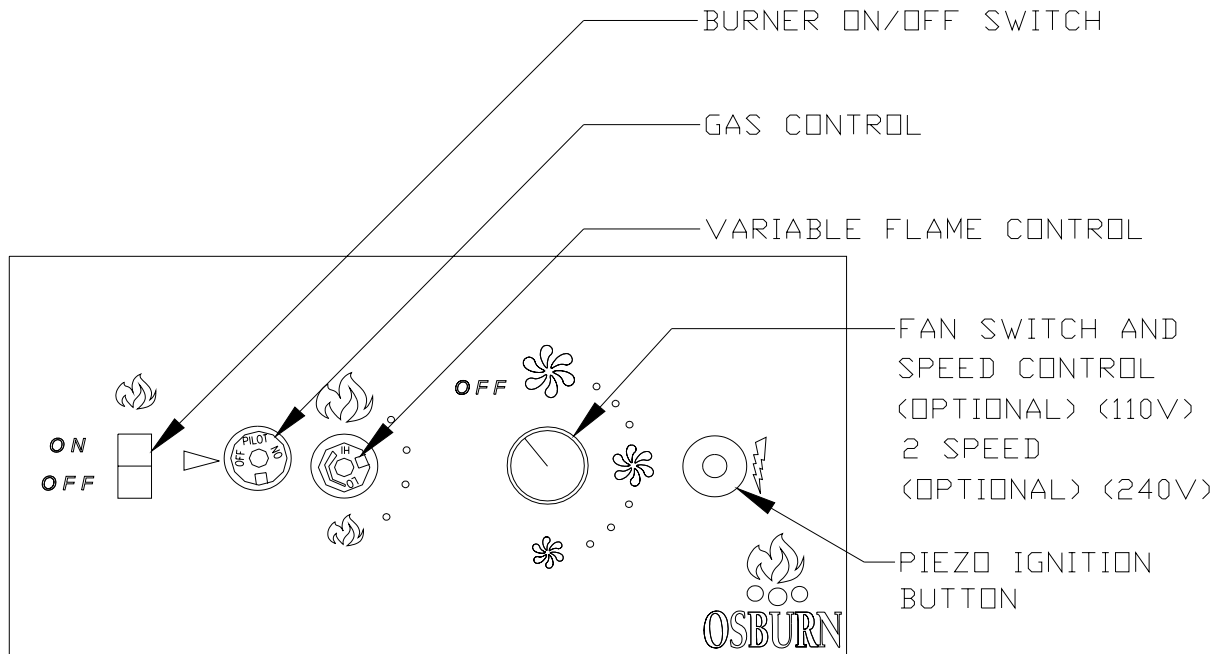

Figure 2
The glass door and grille assembly must be properly installed prior to operation. **Never** operate the unit with the glass door off or broken since this may cause dangerous indoor air pollution. This unit is **not** for use with solid fuel. **Do not** substitute any parts or materials. **Do not** abuse the glass door. Behind the control panel door on the front of the pedestal is the control panel shown in Figure 2 below.
10. Turn the burner switch to on (see Figure 2).
1. To turn off the main burner only, turn off the wall switch, thermostat, or On/Off switch located on the control panel shown in Figure 2 located behind the control panel door on the front of the pedestal.
The appliance valve has a HI/LO knob to select the heat output and flame height (see Figure 2). Natural gas units can be turned down by 30%, propane units can be turned down by 25%.